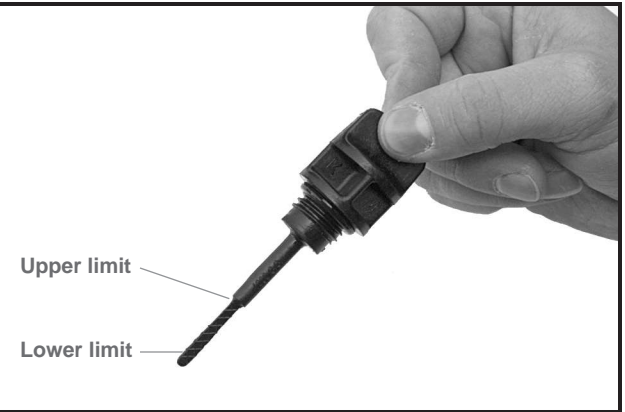

Figure 11 Engine Oil Level Check
1. Remove the oil level dipstick from the oil filler tube and wipe oil from dipstick (Figure 11). See following CAUTION.